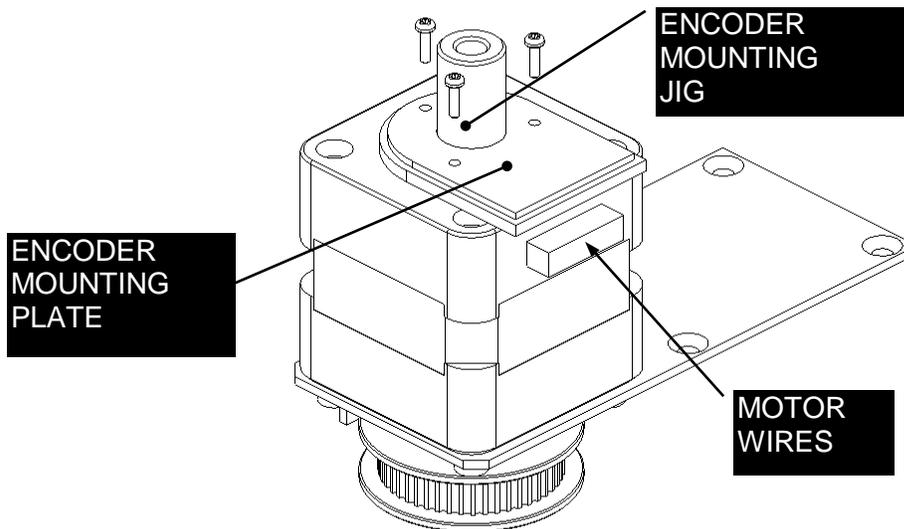

Figure 8-32: Encoder Mounting Plate
- Remove the Encoder Mounting Plate (Figure 8-32). The jig (DSXFIX015) shown in the figure is not required for removal, but is required for installation of a new unit.